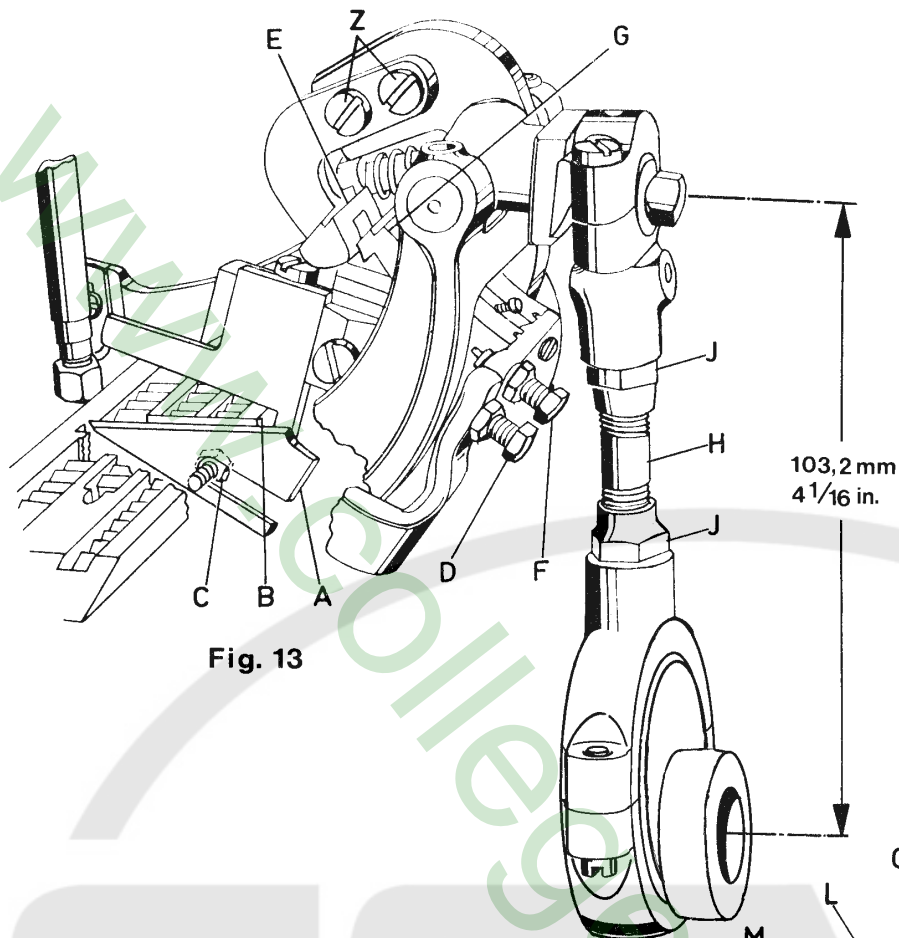
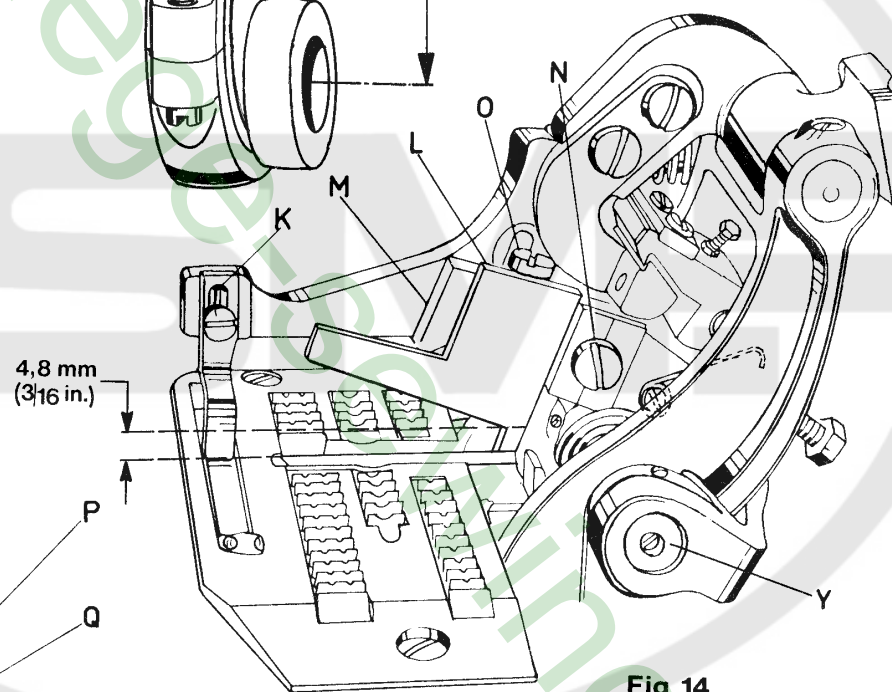
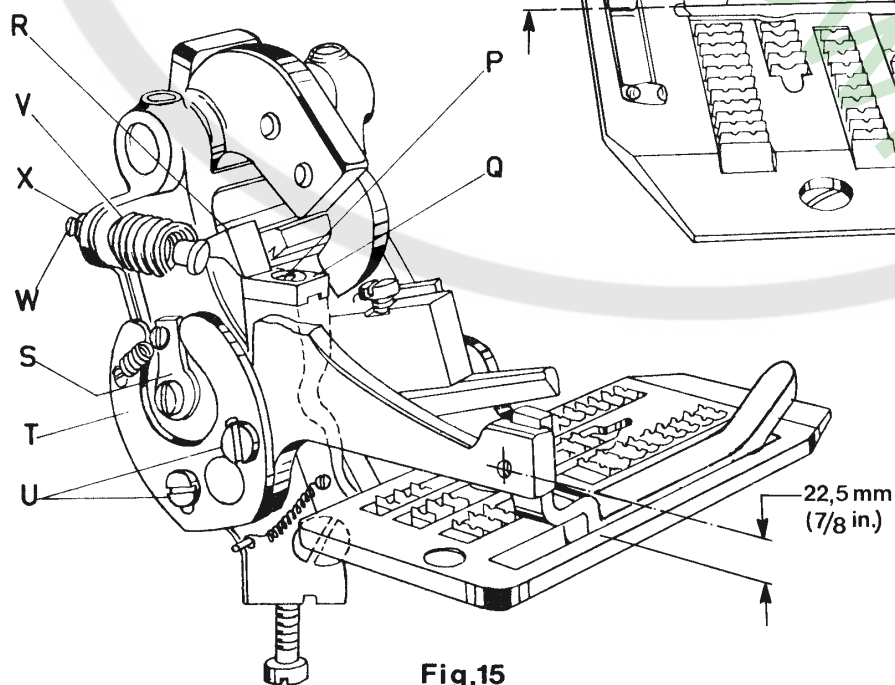

Fig. 13
Fig. 14
Fig. 15
2. Lay the throat plate temporarily on its seat. Loosen the hexagonal head adjusting screw (D, Fig. 13) and set so that the distance between top surface of throat plate and the center of thread hole for fastening the actuating shoe is 22.5 mm (7/8 in.) (see Fig. 15). Retighten screw (D, Fig. 13) with lock nut.
3. Set the lower knife (A, Fig. 13) so that the cutting edge is even with the top of throat plate (B) and tighten it in this position with the hexagonal head screw (C). Reassemble needle guard, feed dog and throat plate.
4. Assemble actuating shoe (K, Fig. 14) and set it so that the top surface of actuating shoe is even with the top surface of throat plate.
5. With a screwdriver, press the spring loaded knife lever shaft (Y, Fig. 14) to the rear and insert upper knife (L) in upper knife lever (M). Raise the upper knife as high as it will go, until the back of the knife cutting edge stops on the knife lever. Tighten the clamp screw (N) slightly.
6. Loosen screw (P, Fig. 15) and move shoe (Q) to extreme left. Turn handwheel until pawl (E, Fig. 13) is at its lowest position. Turn screw (F) until the edge of ratchet block (G) snaps over the edge of pawl (E), then add 1/4 to 1/2 turn more to ensure adequate clearance under operating conditions. Retighten the lock nut of the screw (F). If screw (F) is turned too far the mechanism will not work. Small differences can be equalized when loosening screws (Z) and adjusting the pawl (E) accordingly. Retighten screws (Z) firmly.
7. Move shoe (Q, Fig. 15) to the right so that pawls (R) will rest on the extreme right end of shoe. Shoe should have polished end to the right and point of pawls may overlap slightly over outside to insure trigger action during operation of machine.
2. Deje la plancha de aguja momentaneamente en su sitio. Suelte los tornillos de cabeza hexagonal (D, Fig. 13) y ajústelos de manera que la distancia entre la superficie superior de la plancha de aguja y el centro del hueco del pasahilo que asegura la lengüeta sea de 22,5 mm (Ver Fig. 15). Vuelva a ajustar el tornillo (D, Fig. 13) con la arandela de seguridad.
3. Ajuste la cuchilla inferior (A, Fig. 13) de manera que el borde de corte quede al ras con la parte superior de la plancha de aguja (B) y ajuste en su posición el tornillo de cabeza hexagonal (C). Monte de nuevo el guarda agujas, el diente de alimentación y la plancha de aguja.
4. Vuelva a montar la lengüeta de accionamiento (K, Fig. 14) y ajústela de manera tal que quede al ras con la parte superior de la plancha de aguja.
5. Con un destornillador, empuje el resorte inserto en el soporte de la cuchilla (Y, Fig. 14) hacia atrás e inserte la cuchilla superior (L) en el soporte de la cuchilla superior (M). Suba la cuchilla superior hasta su punto mas alto, hasta que la parte posterior del borde de la cuchilla pare en el sujetador de la cuchilla. Asegure el tornillo sujetador (N) ligeramente.
6. Suelte el tornillo (P, Fig. 15) y mueva la lengüeta (Q) a la extrema izquierda. Gire el volante hasta que el diente de encaje (E, Fig. 13) llegue a su posición mas baja. Gire el tornillo (F) hasta que el borde del reten (G) se cierre sobre el borde del diente de encaje (E). Agregue 1/4 a 1/2 vuelta al tornillo (F) para asegurarlo en condiciones de operación. Asegure nuevamente la arandela de seguridad sobre el tornillo (F). Si el tornillo (F) se aprieta demasiado, el mecanismo no funcionará. Pequeñas diferencias pueden ser ajustadas soltando un poco los tornillos (Z) y ajustando el diente de encaje (E). Reasegure de nuevo los tornillos (Z) firmemente.
- Si no se consigue el ajuste del retenedor y el diente de encaje, puede ser necesario ajustar la varilla de conexión (H) ajustando las arandelas de seguridad (J). La distancia correcta centro a centro de la varilla de conexión es de 103.2 mm. Se pueden utilizar ajustadores individuales para corregir pequeñas diferencias de confección en los rollos de cinta.
7. Mueva la lengüeta (Q, Fig. 15) hacia la derecha de manera que el diente de encaje (R) descansa en la extrema derecha de la lengüeta. La lengüeta debe haber sido pulida para que el deslizamiento sea mas suave y se asegure el accionamiento del disparo durante la operación de la maquina.
8. When actuating shoe (K, Fig. 1e) is raised slightly, trip dog (S, Fig. 15) should allow pawl (R) to slide off shoe (Q) and the cutting action is released within 1 1/2 turn or less of the handwheel.
Raise actuating shoe (K, Fig. 14) slightly and turn handwheel in operating direction until upper knife (L) is in its lowest position. Left at the tip of the knives, the cutting edge of the upper knife should overlap the cutting edge of the lower knife by 1 mm (.040 in.)
When open there should be about 4.8 mm (3/16 in.) opening, right at the pilot of the upper knife (see Fig. 14).
NOTE: When the knives (A, Fig. 13) and L, Fig. 14) are resharpened, their adjustment is maintained by only raising and lowering them in their holders, according to the stock removed while grinding.
9. The position of the tape cutter actuating shoe (K, Fig. 14) determines the length of tape extending beyond the bag at the start of closure. The extending length of tape at the finish of closure is not adjustable.
Also the trip dog operating cam (T, Fig. 15) can be retarded or advanced to vary the length of the tape at the start of closure. Loosen screws (U) and turn the operating cam (T) toward the handwheel end of machine to shorten the extending length of tape and in the opposite direction to lengthen it. Retighten screws (U).
The actuating shoe tension spring (V, Fig. 15) is adjustable for various weights of material. Use screw (W) and lock nut (X) to make this adjustment. The tension should be just strong enough to press the actuating shoe down, back to its home position.
8. Cuando la lengüeta de accionamiento (K, Fig. 14) está subiendo suavemente, la punta del diente (S, Fig. 15), deberá permitir que el diente de encaje (R) deslice sobre el patín (Q) y la cuchilla cortará la cinta en 1 1/2 vueltas o menos del volante.
Eleve la lengüeta de accionamiento (K, Fig. 14) ligeramente y gire el volante en sentido de operación hasta que la cuchilla superior (L) llegue a su posición mas baja. A la izquierda de la punta de la cuchilla, el borde cortante de la cuchilla superior debe sobrepasar el borde cortante de la cuchilla inferior por 1 mm.
Cuando las cuchillas esten abiertas a su maximo recorrido, deberia haber una distancia de 4,8 mm (ver Fig. 14) justo en el soporte de la cuchilla superior.
NOTA: Cuando las cuchillas (A, Fig. 13) y (L, Fig. 14) sean afiladas, su ajuste se logra subiendo y bajandolas en sus soportes. Se recomienda sacalas para ser afiladas.
9. La posición de la lengüeta de accionamiento del cortador de cinta (K, Fig. 14) determina el largo de la cinta que sobresale en el saco al comienzo del cierre. La cinta sobrante al final del saco no es ajustable.
También el diente de operación del alimentador (T, Fig. 15) puede ser retrasado o adelantado para variar el largo de la cinta al comienzo del saco. Suele los tornillos (U) y gire el diente de operación (T) hacia el volante al final de la maquina para acortar el largo de la cinta y en sentido contrario para alargarlo. Reasegure los tornillos (U) nuevamete.
El muelle de accionamiento (V, Fig. 15) es ajustable para los distintos gruesos del material. Este ajuste se realiza por medio del tornillo (W) y la contra tuerca (X). La tensión debe ser lo suficiente para presionar el diente de operación hacia abajo, de regreso a su posición original.